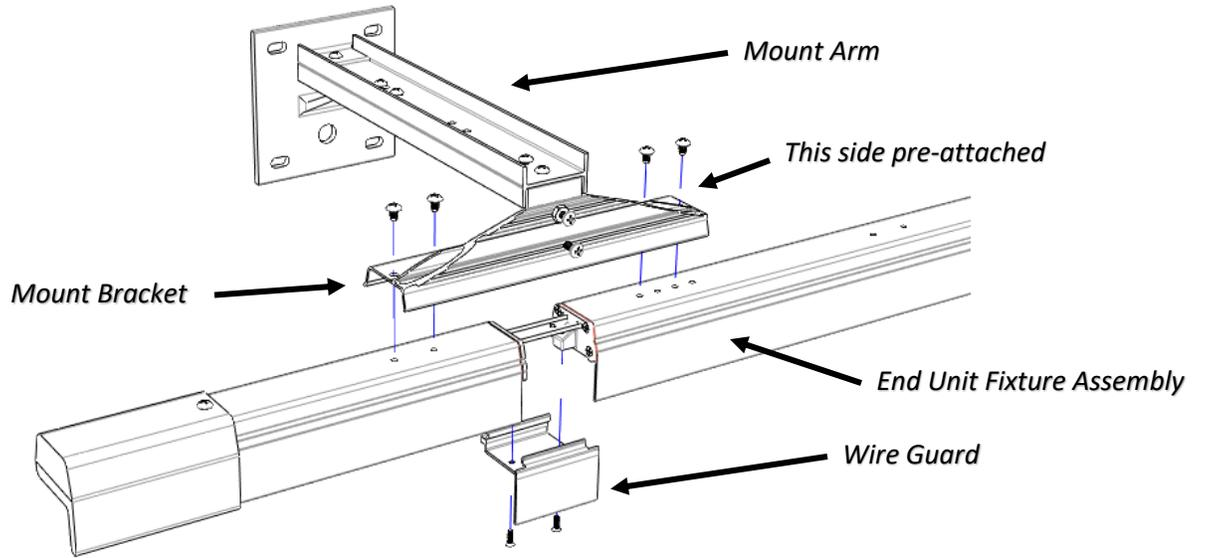

Figure 3: Connecting to a 1 ft End-to-Center units or Center-to-Center units. Note that the Mount Bracket straddles 2 fixtures.
1. Fixtures are interlinked with a Mount Bracket as shown in Figure 3. The Mount Bracket is pre-installed onto the fixture. To connect to the adjacent fixture simply attach the open end of the Mount Bracket to the adjacent fixture and secure it with the two #8-32X1/4" thread cutting screws provided.
3. Secure the Wire Guard with the 2 provided #4-24X3/8" flat head screws (Figure 3).